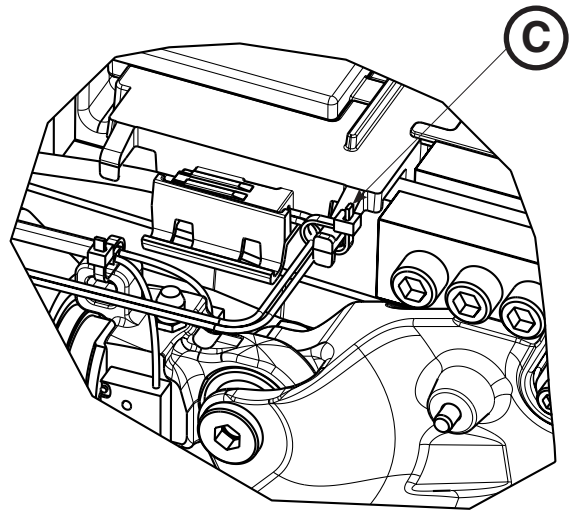

Figure 74
5. Using diagonal pliers, cut the zip ties (C) that secure the hydraulic cylinder rod end assembly cable to the plastic cover (Figure 74).